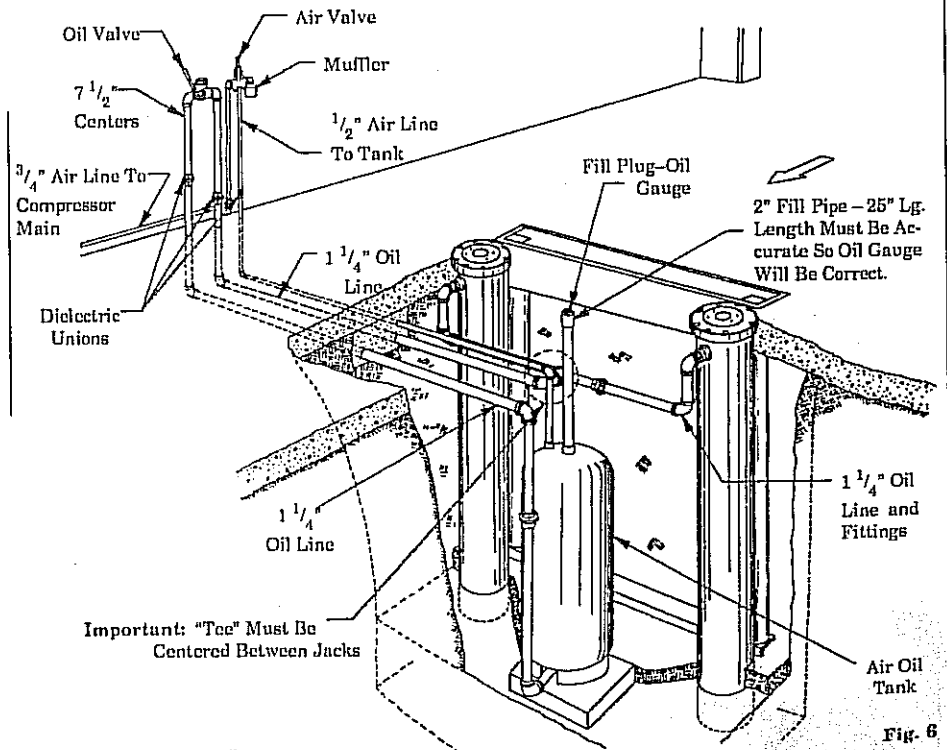
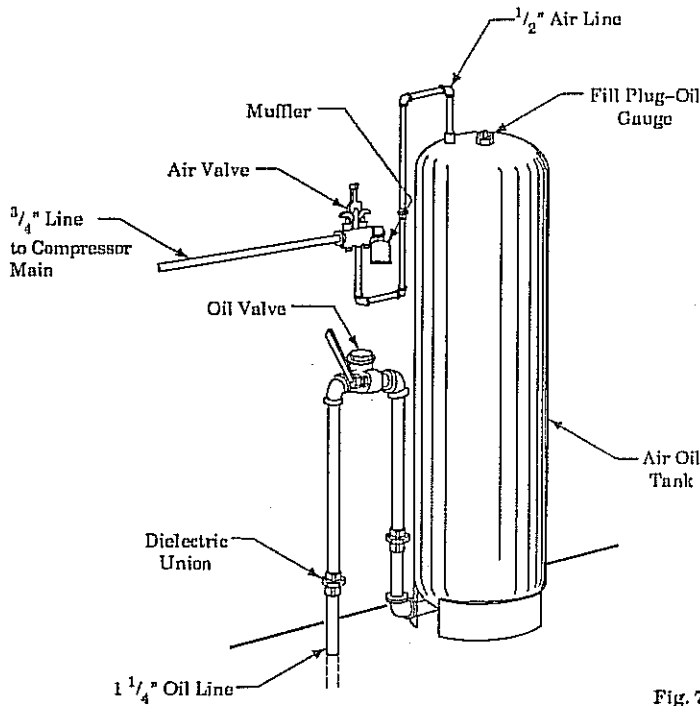

Fig. 6
Fig. 7
4. **TANK LOCATION:** Underground installation of tank is recommended as shown in Fig. 6. Tank may be located above ground as shown in Fig. 7. Be sure tank installation meets requirements of local codes.
5. **UNDERGROUND TANK INSTALLATION AND PIPING:** Refer back to section 1, paragraph 2 for corrosion protection. All underground pipe and fittings should be double wrapped with a 10 mil. tape. See Fig. 6. Provide tank fill assembly consisting of 2" x 25" long pipe, 2" coupling. Factory recommends Schedule 40 pipe and standard fittings. **BE SURE** all piping conforms to local and state codes. Use a good joint sealant because air joints are difficult to seal. Wash out all pipe with a solvent and blow dry with air. Set tank in hole holding top of fill coupling at floor level. Backfill and tamp around tank. Use 1/2" air line from air valve to tank and 1 1/4" pipe for all oil line piping. Be sure to center "Tee" in oil supply line between jacks. Provide 3/4" pipe from compressor main line to air valve. Tap main line from top side for moisture-free air to valve. Locate valves about 40" above floor.
6. **ABOVE GROUND TANK INSTALLATION AND PIPING:** See Fig. 7 for pipe sizes and the above paragraph for cleaning instructions. Refer to Fig. 6 for oil piping to jack inlets.